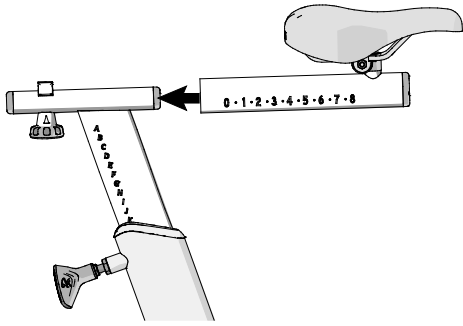

Figure 6
1. Slide the seat assembly onto the seat post (Figure 6).